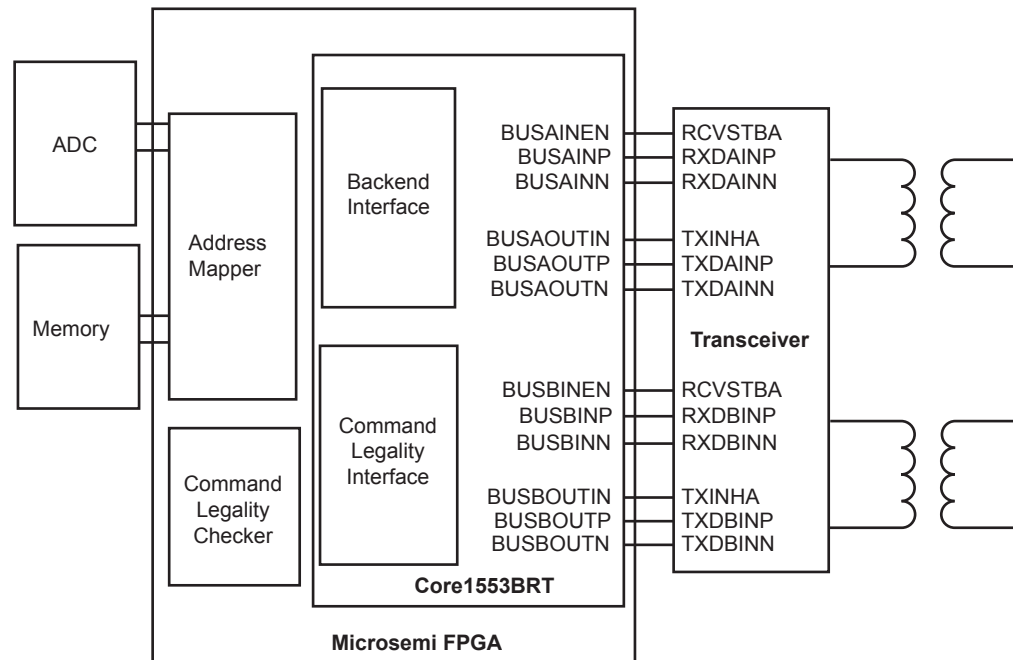
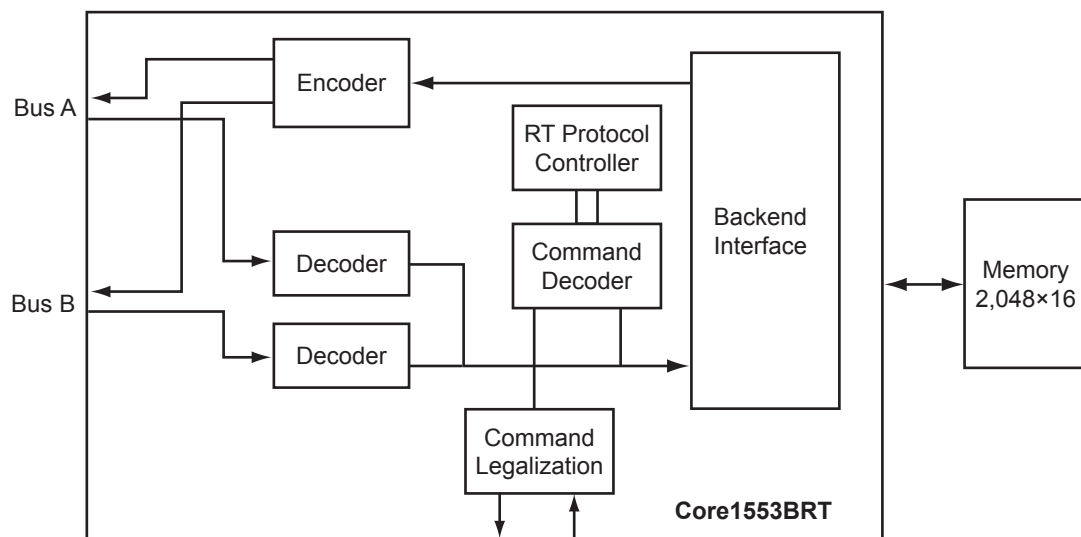

Figure 1 • Typical Core1553BRT System
Figure 2 • Core1553BRT RT Block Diagram
Core1553BRT provides a complete, dual-redundant MIL-STD-1553B remote terminal (RT), apart from the transceivers required to interface to the bus. A typical system implementation using Core1553BRT is shown in Figure 1 and Figure 2 on page 6.
The core consists of six main blocks: 1553B encoders, 1553B decoders, the backend interface, a command decoder, RT controller blocks, and a command legalization block (Figure 2).